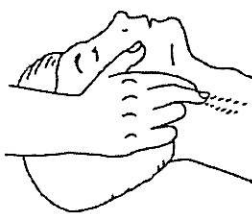
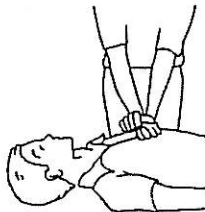
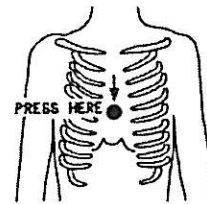

Figure 3
Figure 4
Figure 5
- Check carotid pulse (**Figure 3**); if pulse is absent, begin artificial circulation (**Figure 4**) depressing sternum 1 1/2" TO 2" (**Figure 5**).